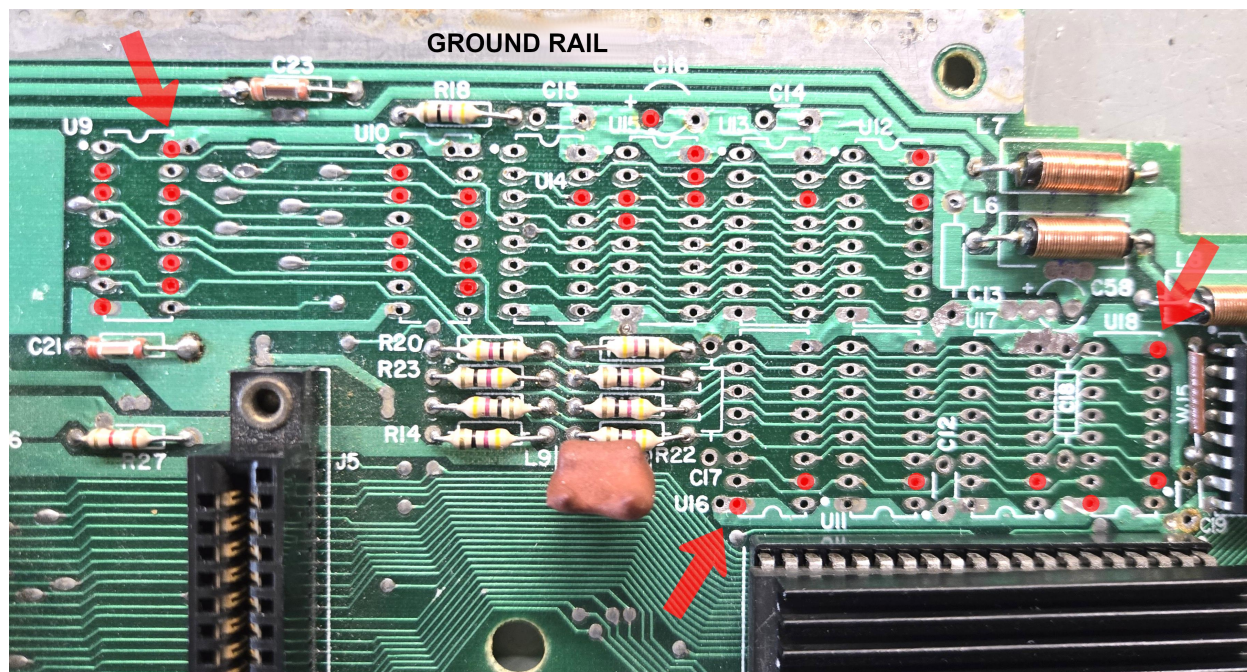

Figure 1
Desolder and remove all associated decoupling capacitors, DRAM, and multiplexer ICs. Below is a listing in the order on the PCB for easier reference. See **Figure 1**.
Inspect desoldering work performed and repair any visual issues found or take notes at this point to address later if bodge/repair wires need to be added after the new DRAM to SRAM converter board is installed. Verify all solder is fully removed from solder pads shown in red in **Figure 1** to ensure room for pins later. Note: Redundant parallel signals are not used by the new SRAM Converter mod PCB and may not even have to be addressed if the break is after where the signal is being tapped for the new PCB. See troubleshooting section for diagnosing broken traces if needed.
Start the process of installing your new SRAM Converter mod PCB by aligning the GND and VCC pins just above the U24 40-pin IC then verify the placement of GND and VCC at the far left of the PCB as the reference to properly align the PCB. See arrows in **Figure 1**. Carefully and slowly lower the PCB in place. Do not rush this process. It may be necessary to wiggle the PCB slightly if any pins are ever so slightly off as you work them all in place as you carefully lower it. If for some reason a pin will not align, bend it slightly to seat. Lower the PCB as parallel as possible with the ADAM Gamma PCB to avoid bending pins and making the installation more difficult.
<input type="checkbox"/> GND (5)	Ground Rail along top of PCB (see Figure 1)